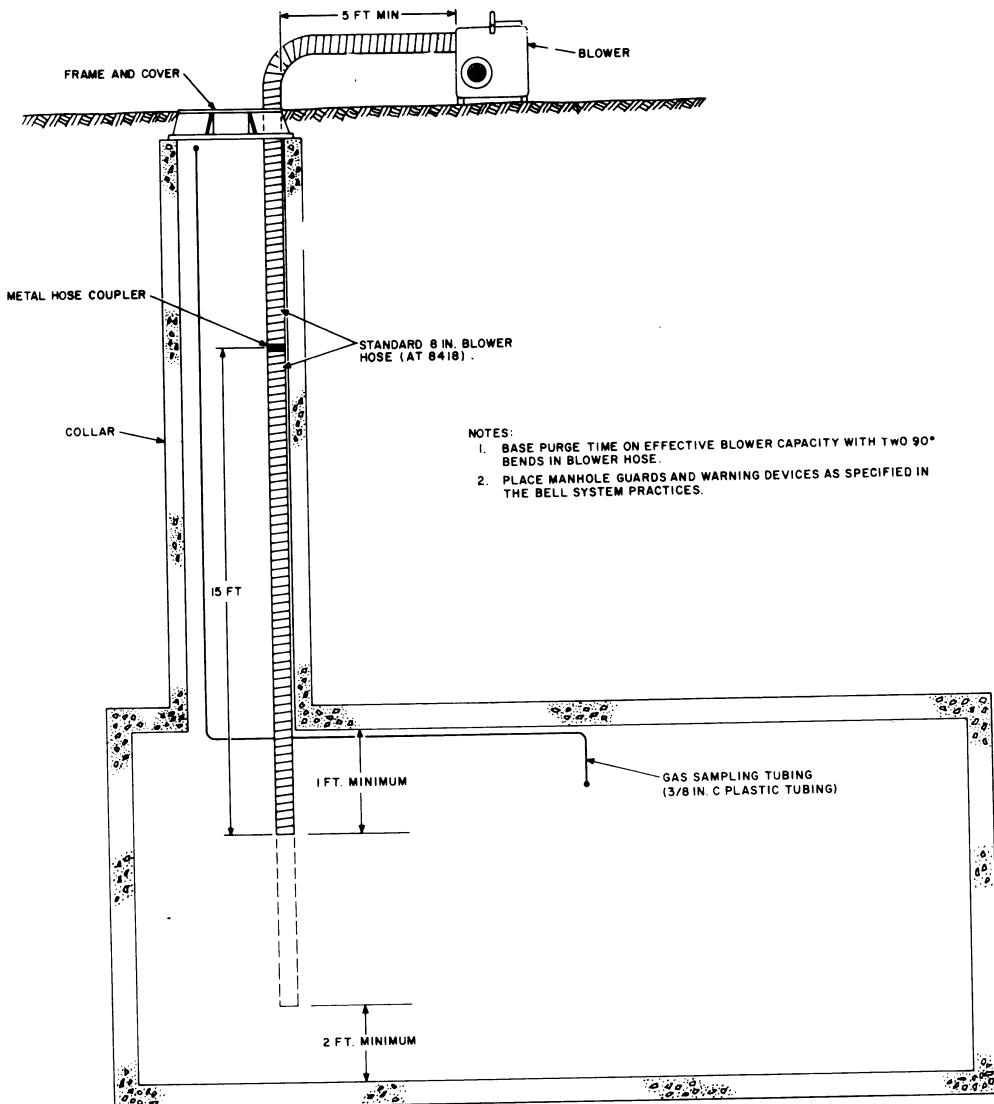
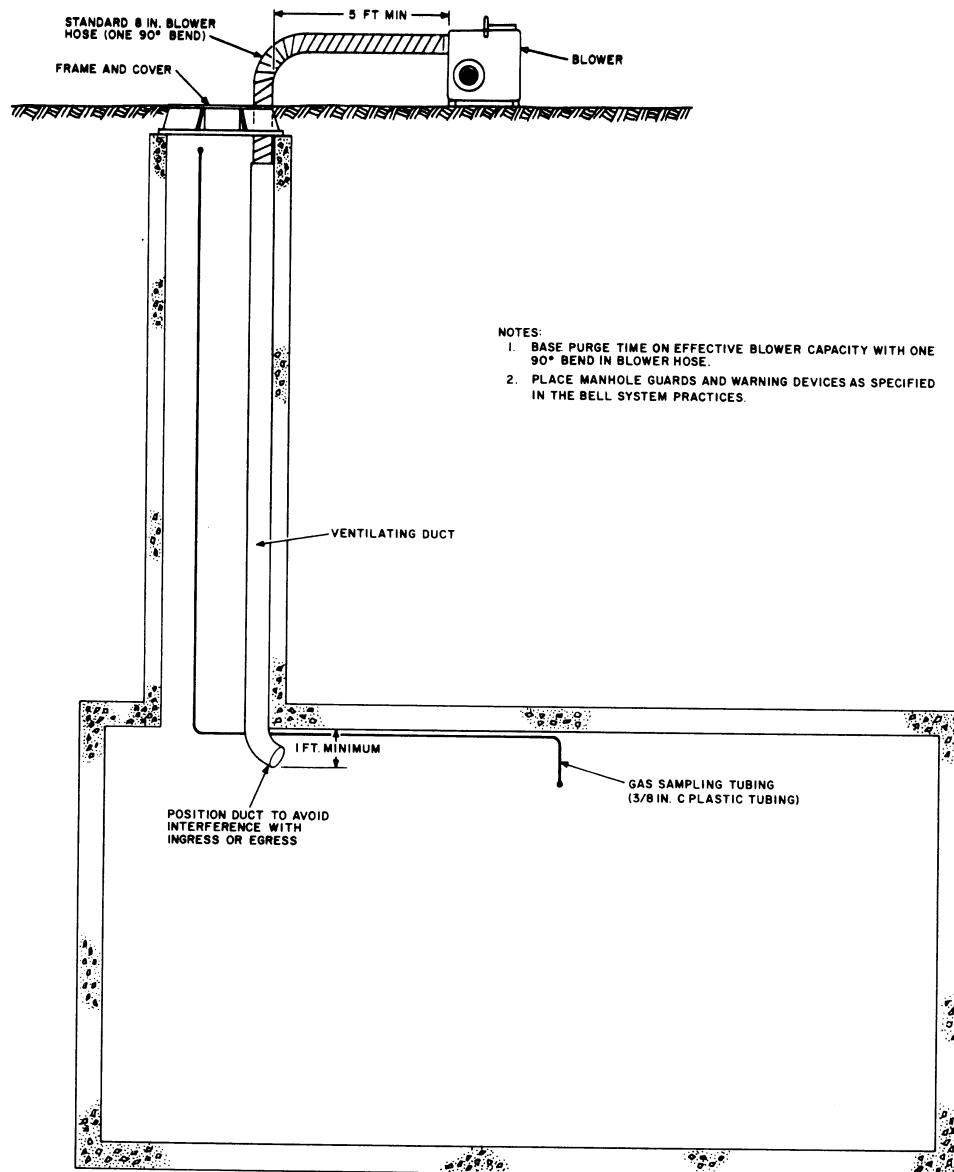
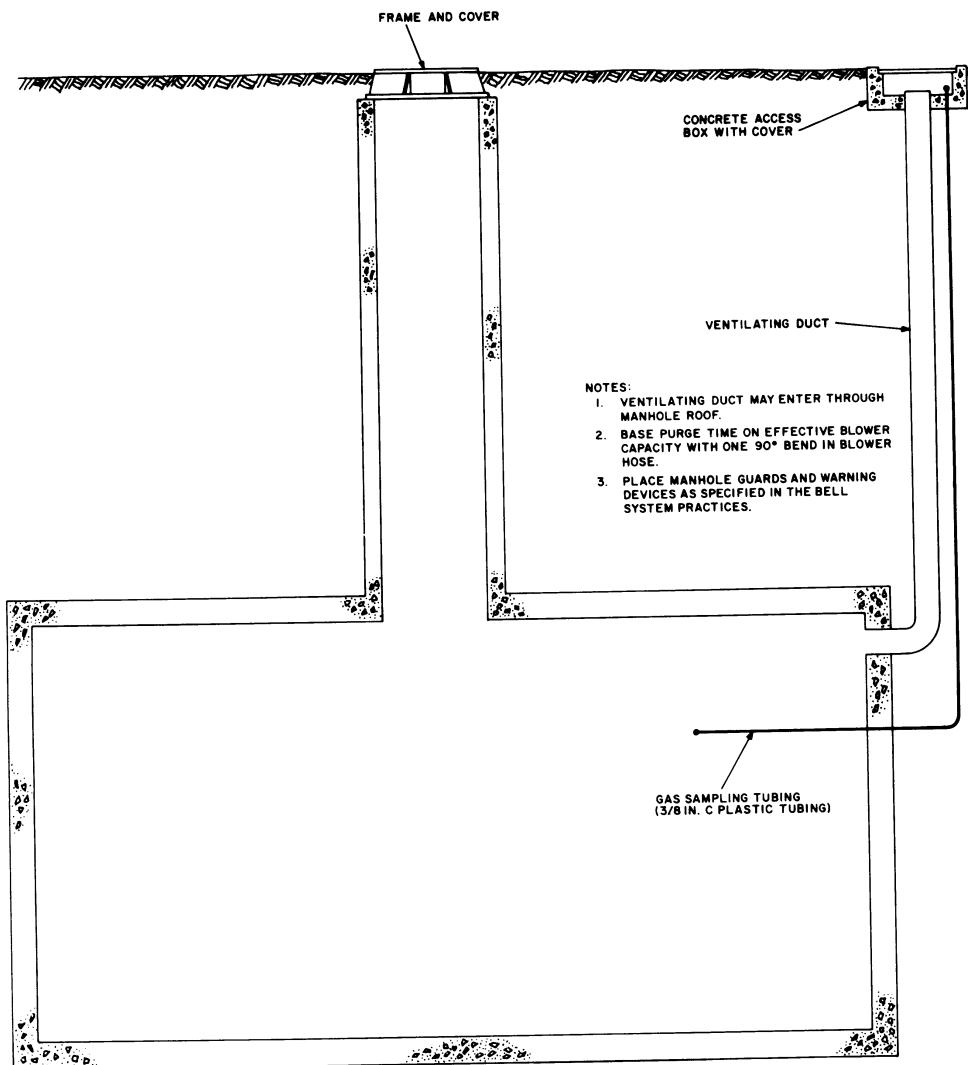

Fig. 5—Deep Neck Manhole Ventilated by Coupling Two Blower Hoses
Fig. 6—Deep Neck Manhole Ventilated With Permanent Ventilating Duct Installed in Collar
Fig. 7—Deep Neck Manhole With Permanent Ventilating Duct Installed Adjacent to Manhole
**6.07** For the purposes of this section, deep neck manholes are defined as those manholes with entry through the roof and with a long collar height so that one 15-foot blower hose is not adequate in length for purging and for continuous ventilation. Deep neck manholes may be purged and ventilated by coupling two standard blower hoses together (Fig. 5) or by utilizing permanent ventilating duct installed either in the collar (Fig. 6) or adjacent to the manhole (Fig. 7).